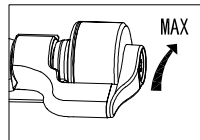

Figure 10-4-1
4. Push the speed control switch from the OFF position to take up the fishing line when the fishing line is rocking. The electric reel is eight-speed transmission, and the appropriate speed can be adjusted according to the actual situation (Figure 10-4-1).